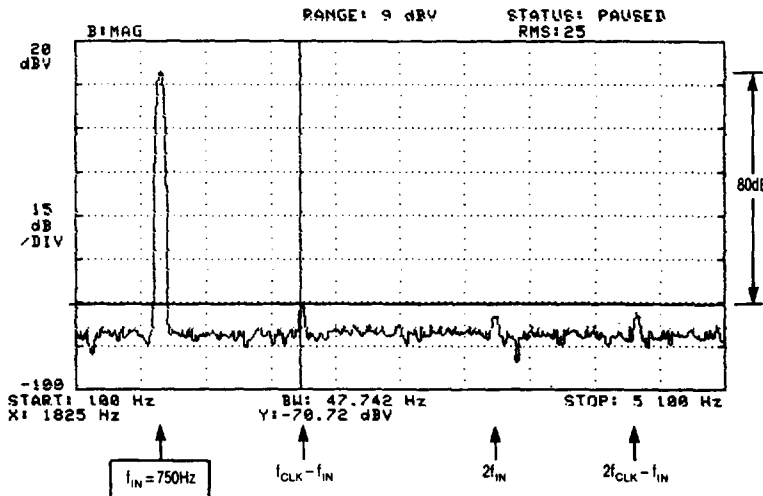

Figure 5A. Output Voltage Spectrum of 1/2 LTC1051 Operating as an Inverting Amplifier with Gain of 10, and Amplifying a 750Hz, 800mV Input AC Signal.
2. If we arbitrarily accept that “aliasing” occurs when output alias signals reach an amplitude of 0.01% or more of the output signal, then: The approximate minimum frequency of an AC input signal which will cause aliasing is equal to the internal clock frequency multiplied by the square root of the op amp feedback factor. For instance, with closed loop gain of  $-10$ , the feedback factor is  $1/11$ , and if  $f_{CLK} = 2.6\text{kHz}$ , alias signals can be detected when the frequency of the input signal exceeds 750Hz to 800Hz, Figure 5A.